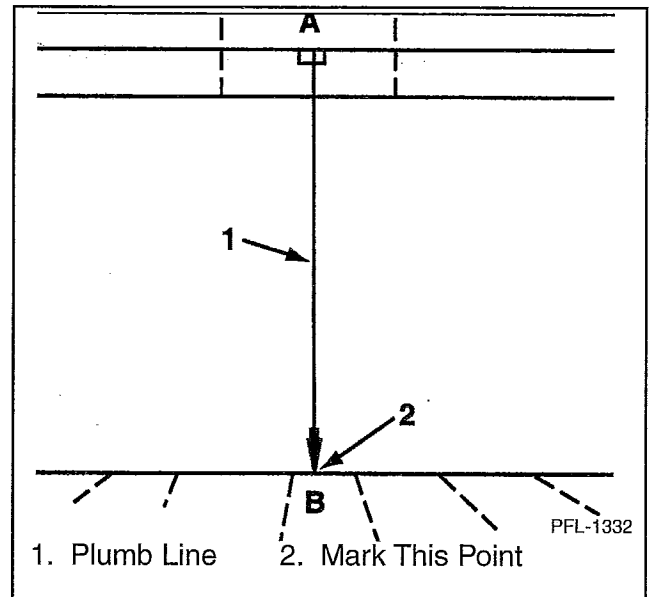

Figure 4
4. Drop a plumb bob from point A and mark point B. See Figure 4.